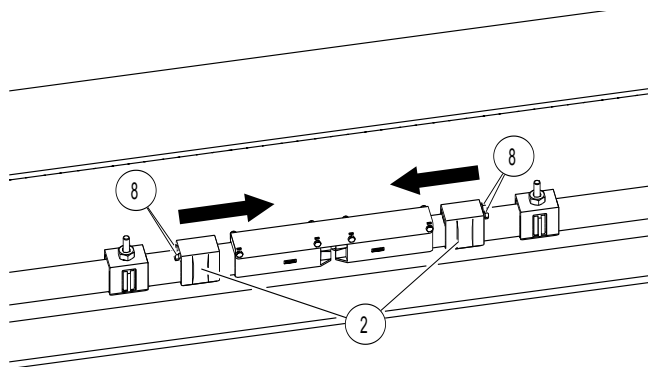
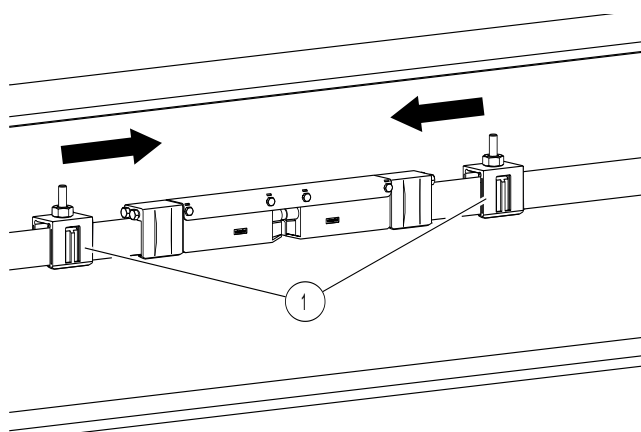

Fig. 94: Slide the anchor clamp to the air gap and tighten the side screws
Fig. 95: Slide the hanger clamp up to the screw on the side of the anchor clamp
- Slide the anchor clamp (Pos. 2) against the end caps and tighten the side screws of the anchor clamp (Pos. 8) (see Fig. 94). Slide the hanger clamp (Pos. 1) up to the screw head of the screw on the side of the anchor clamp (see Fig. 95).